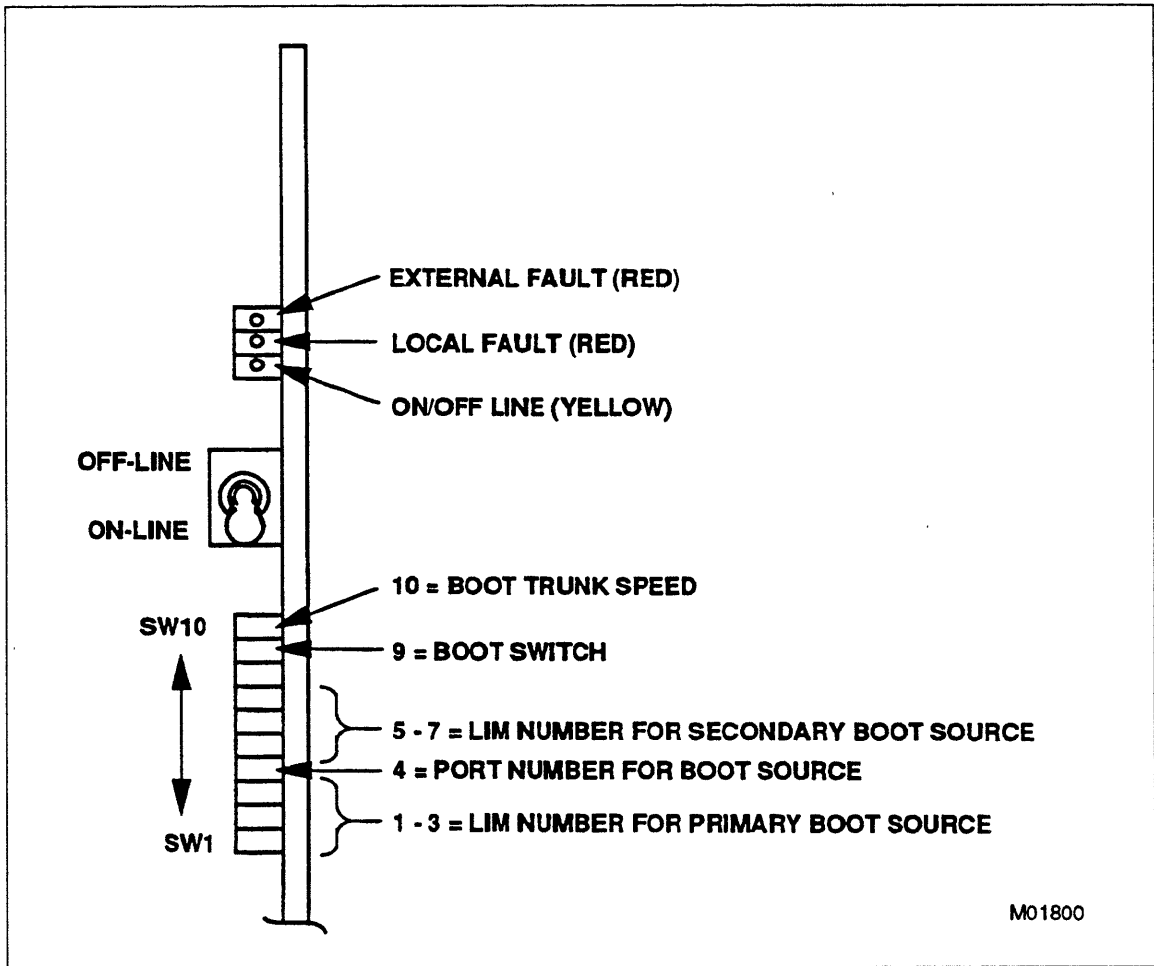

Figure 3-44. CIM Switches
4. Set the Online/Offline toggle switch to Online by pulling out and pressing down on the switch (figure 3-44).